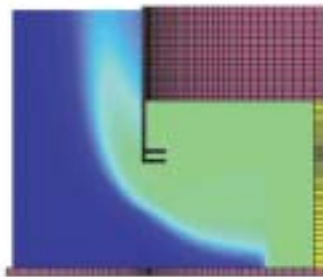

Fig. 1
- Fig. 1 shows the effect on the conditioned space without an Air Curtain and illustrates convective heat losses,